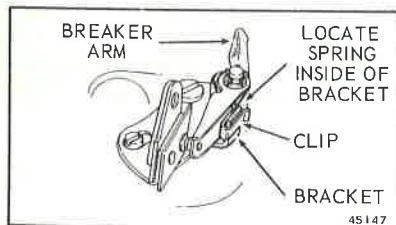

Figure 4-16. Breaker Point Installation
a. After extensive service, the breaker points may become worn, dirty, or out of adjustment. Inspect the breaker assemblies for corrosion or unusual wear. Questionable breaker points should be replaced. See Figure 4-16 for correct installation. Check action of the spring and free movement of the breaker arm. **DO NOT** change breaker arm spring tension.